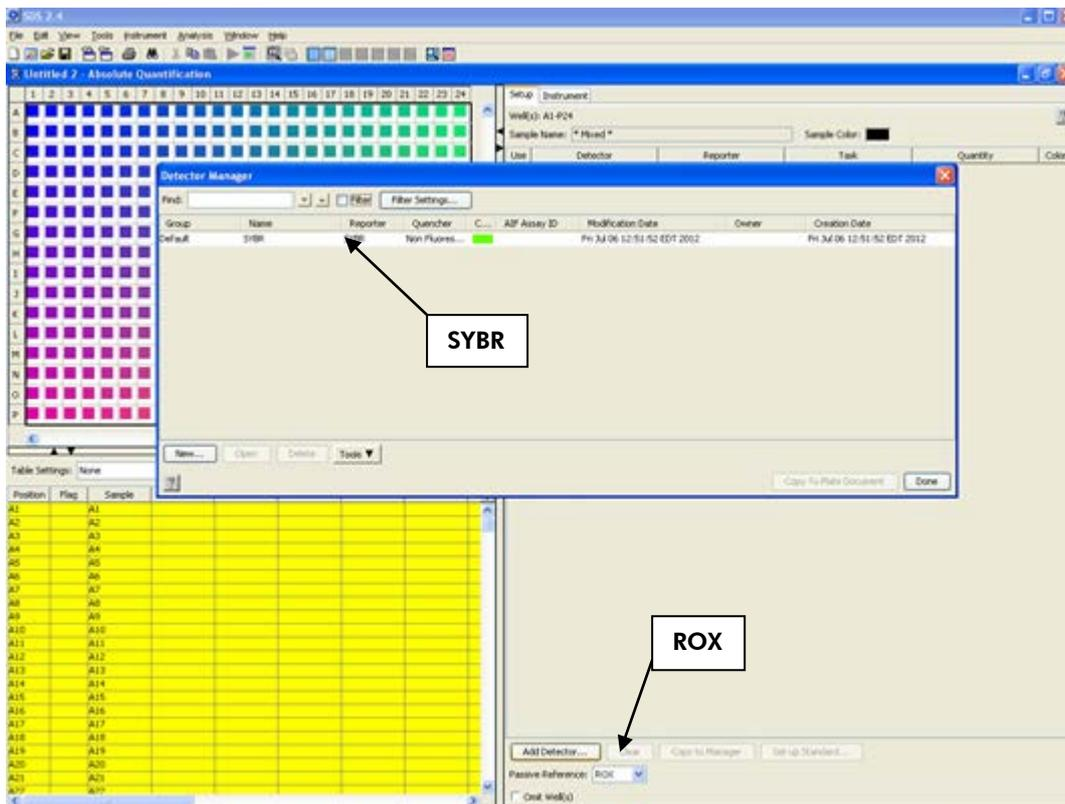

Figure 1. Plate setup — dye selection.
- Click Done button (See Figure 1).